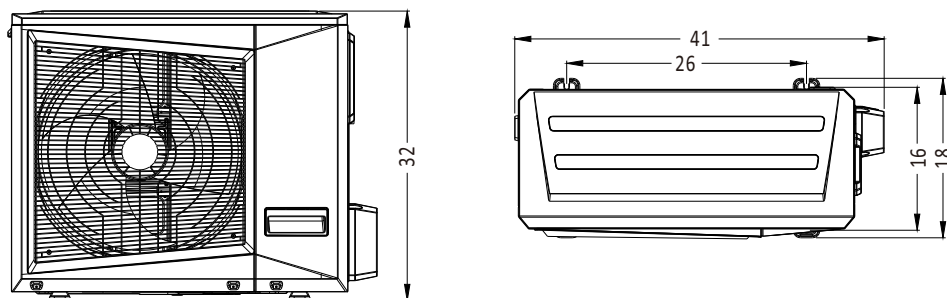

Fig. 3-1 Dimension of Outdoor Unit
- 1) Fig. 3-1 is applicable for models of 24K/36K